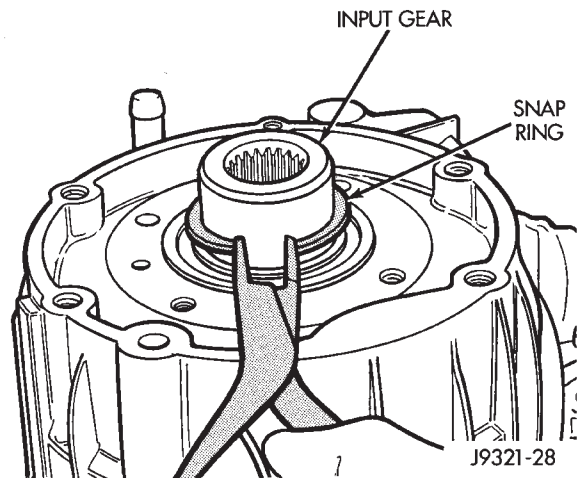

Fig. 54 Install Snap-Ring
(2) Install snap-ring to hold input/low range gear into front bearing (Fig. 54).
(3) Clean gasket sealer residue from retainer and inspect retainer for cracks or other damage.
(4) Apply a 3 mm (1/8 in.) bead of Mopar® gasket maker or silicone adhesive to sealing surface of retainer.
(5) Align cavity in seal retainer with fluid return hole in front of case.